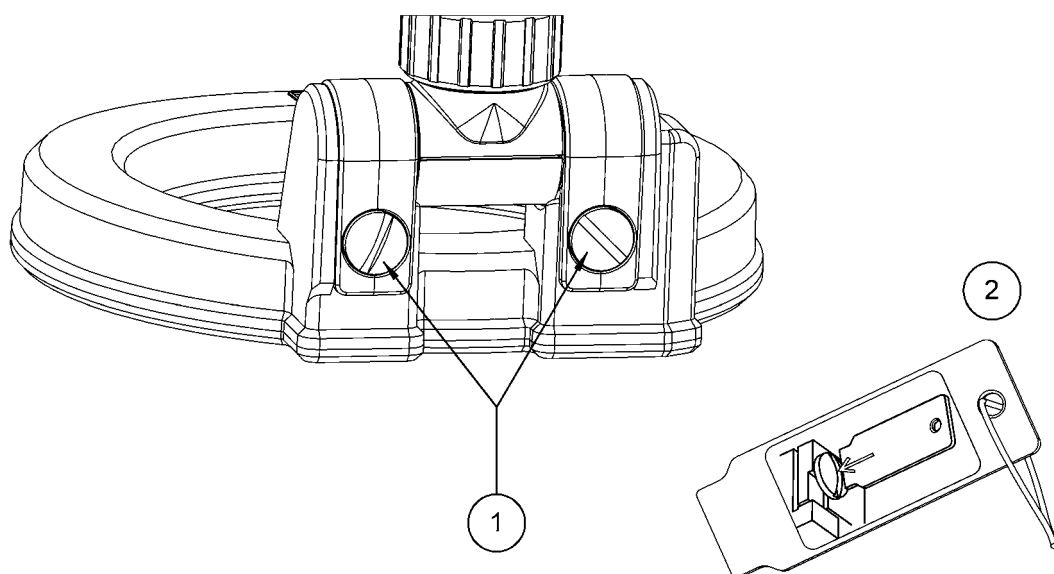

Fig. 5.2.2: Adjusting the search coil brakes: (1) brake screws; (2) adjustment plate
2. Unfold the search coil. If necessary adjust the correct brake strength by turning the brake screws with the included “adjustment plate for brake screw”, see fig. 5.2.2. Turning clockwise increases the brake strength, turning counterclockwise decreases the brake strength.